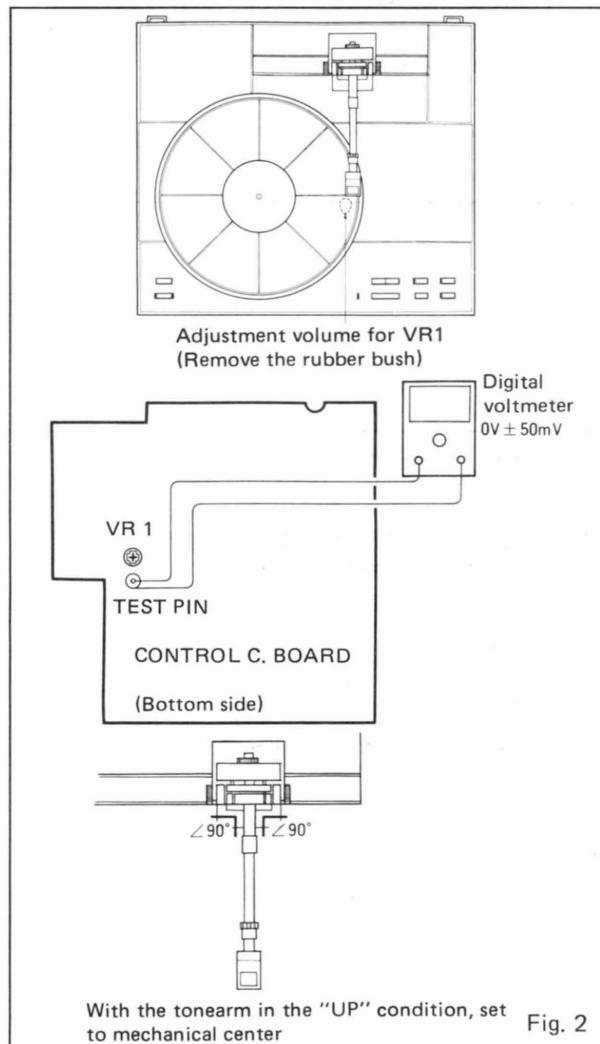

Fig. 2
- 1) With the tonearm in the "UP" condition, set it to the mechanical center as shown in Fig. 2. Turn on the power switch. (Fig. 2)
- 2) With a digital voltmeter connected to the test pin on the control c. board, adjust the knob of VR1 ($2.2k\Omega$) so as to obtain $0V \pm 50mV$ on the voltmeter. (Fig. 2)